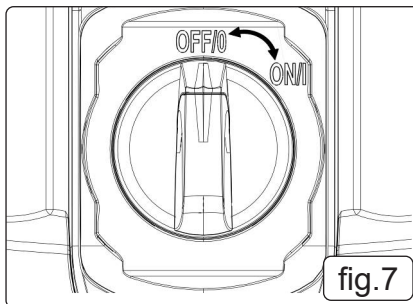

fig.7
- 6.5.1. Turn on the appliance "OFF/ON" (fig.7).
- 6.6.2. Make sure the on/off switch is set to "OFF/O" (fig.7) and insert the plug into a properly installed socket.